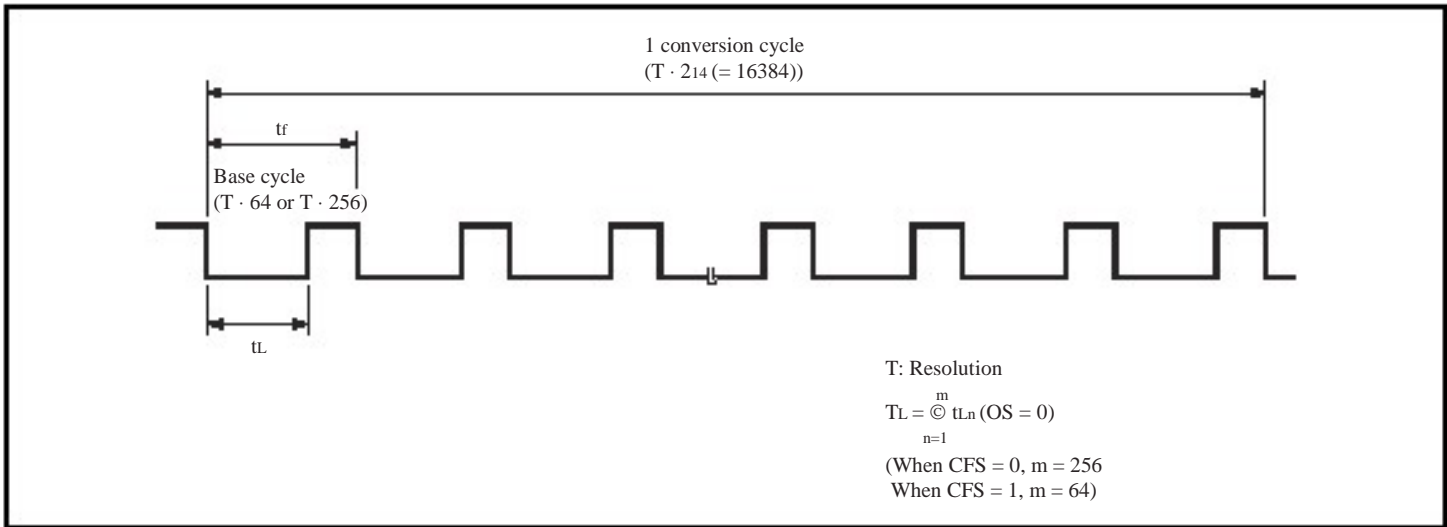

Figure 10.2 PWMX (D/A) Operation
A PWM waveform like the one shown in figure 10.2 is output from the PWX pin. DA13 to DA0 in DADR corresponds to the total width (T_L) of the low (0) pulses output in one conversion cycle (256 pulses when CFS = 0, 64 pulses when CFS = 1). When OS = 0, this waveform is directly output. When OS = 1, the output waveform is inverted, and DA13 to DA0 in DADR value corresponds to the total width (T_H) of the high (1) output pulses. Figures 10.3 and 10.4 show the types of waveform output available.